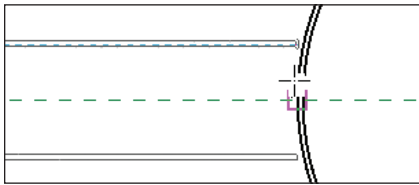

FIGURE 2.35 Completing the main corridor. You will still have to drag the walls together to join up.
9. Pick the intersection of the reference plane and the radial wall as the second point, as shown in Figure 2.35.